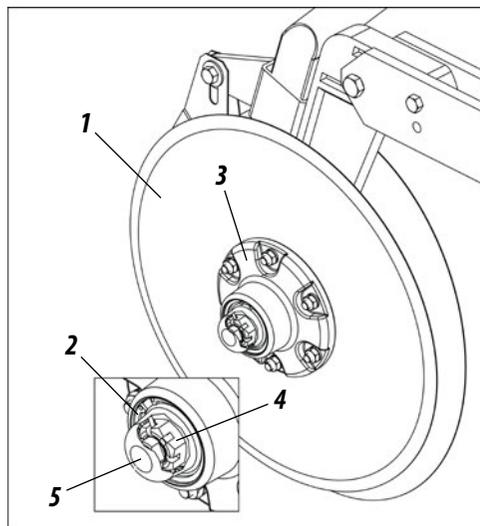

Figure 50
- Periodically lubricate the hubs of the double discs (1) approximately every 200 hours and at the end of the season. To do so, proceed at the end of each season as follows:
01 - Remove the seal ring (2) from the hub (3). Examine the bearings, if there are clearances, adjust through the castle nut (4). Put new grease in the cap (5). Replace the cap on the hub and fix it with the seal ring (1), as figure 50.